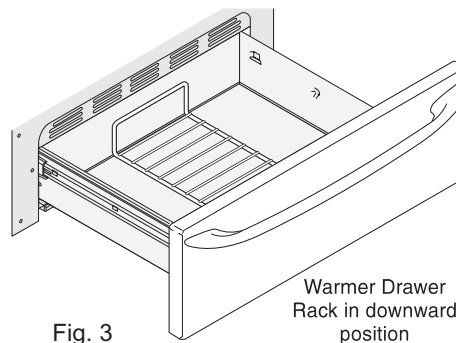

Fig. 3
- In the **downward position** (Fig. 3) to allow you to place light weight food items and empty dishware (for example, rolls or pastries and dinner plates) on the rack.